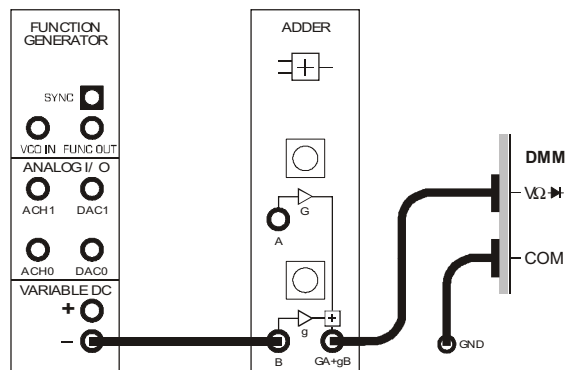

Figure 3
11. Connect the set-up shown in Figure 3 below.